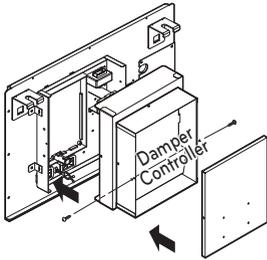

Figure 1
- Open the cover of indoor unit control box and damper controller(Figure 1)